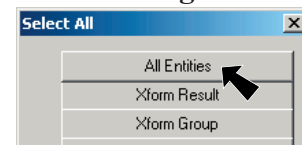

Fig. 8
Step 4. Click **All Entities** button Fig. 8.